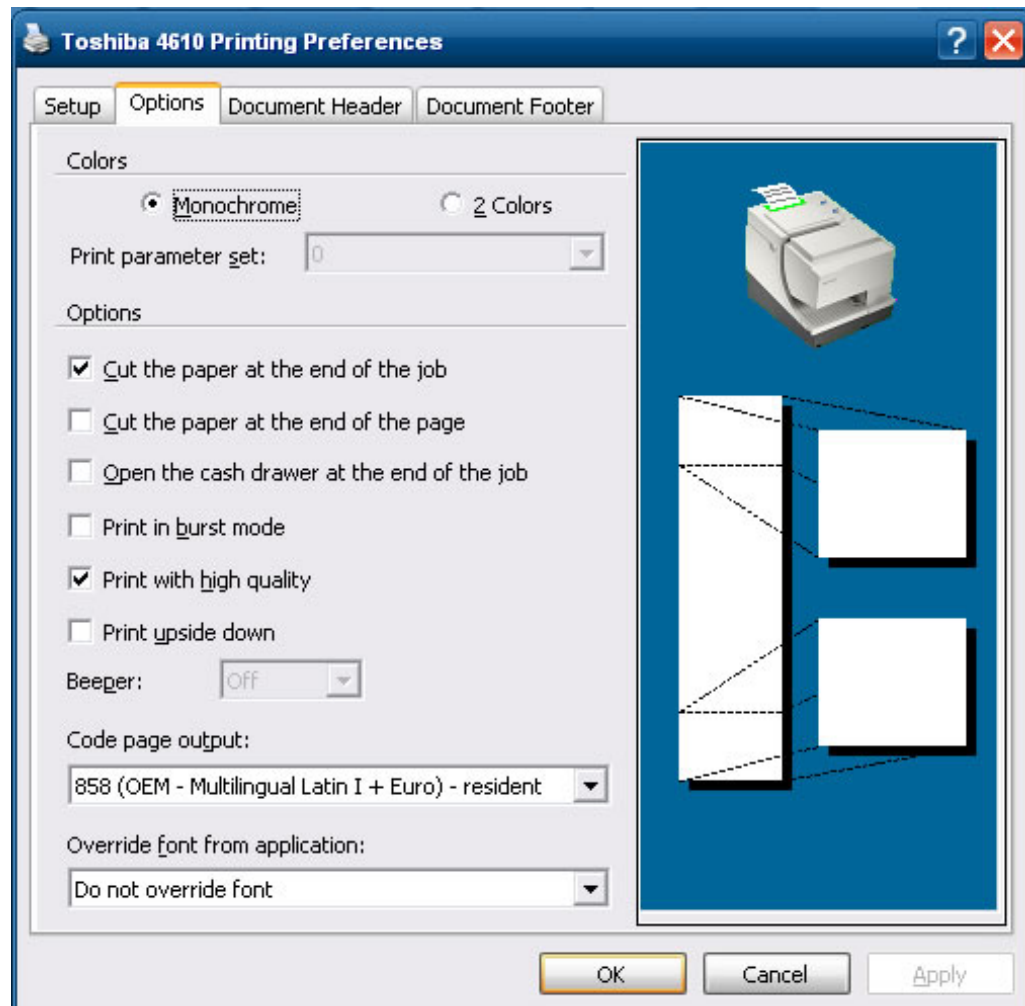

Figure 40. Options tab
4. Click the **Options** tab, and set the options that you require (see Figure 40).